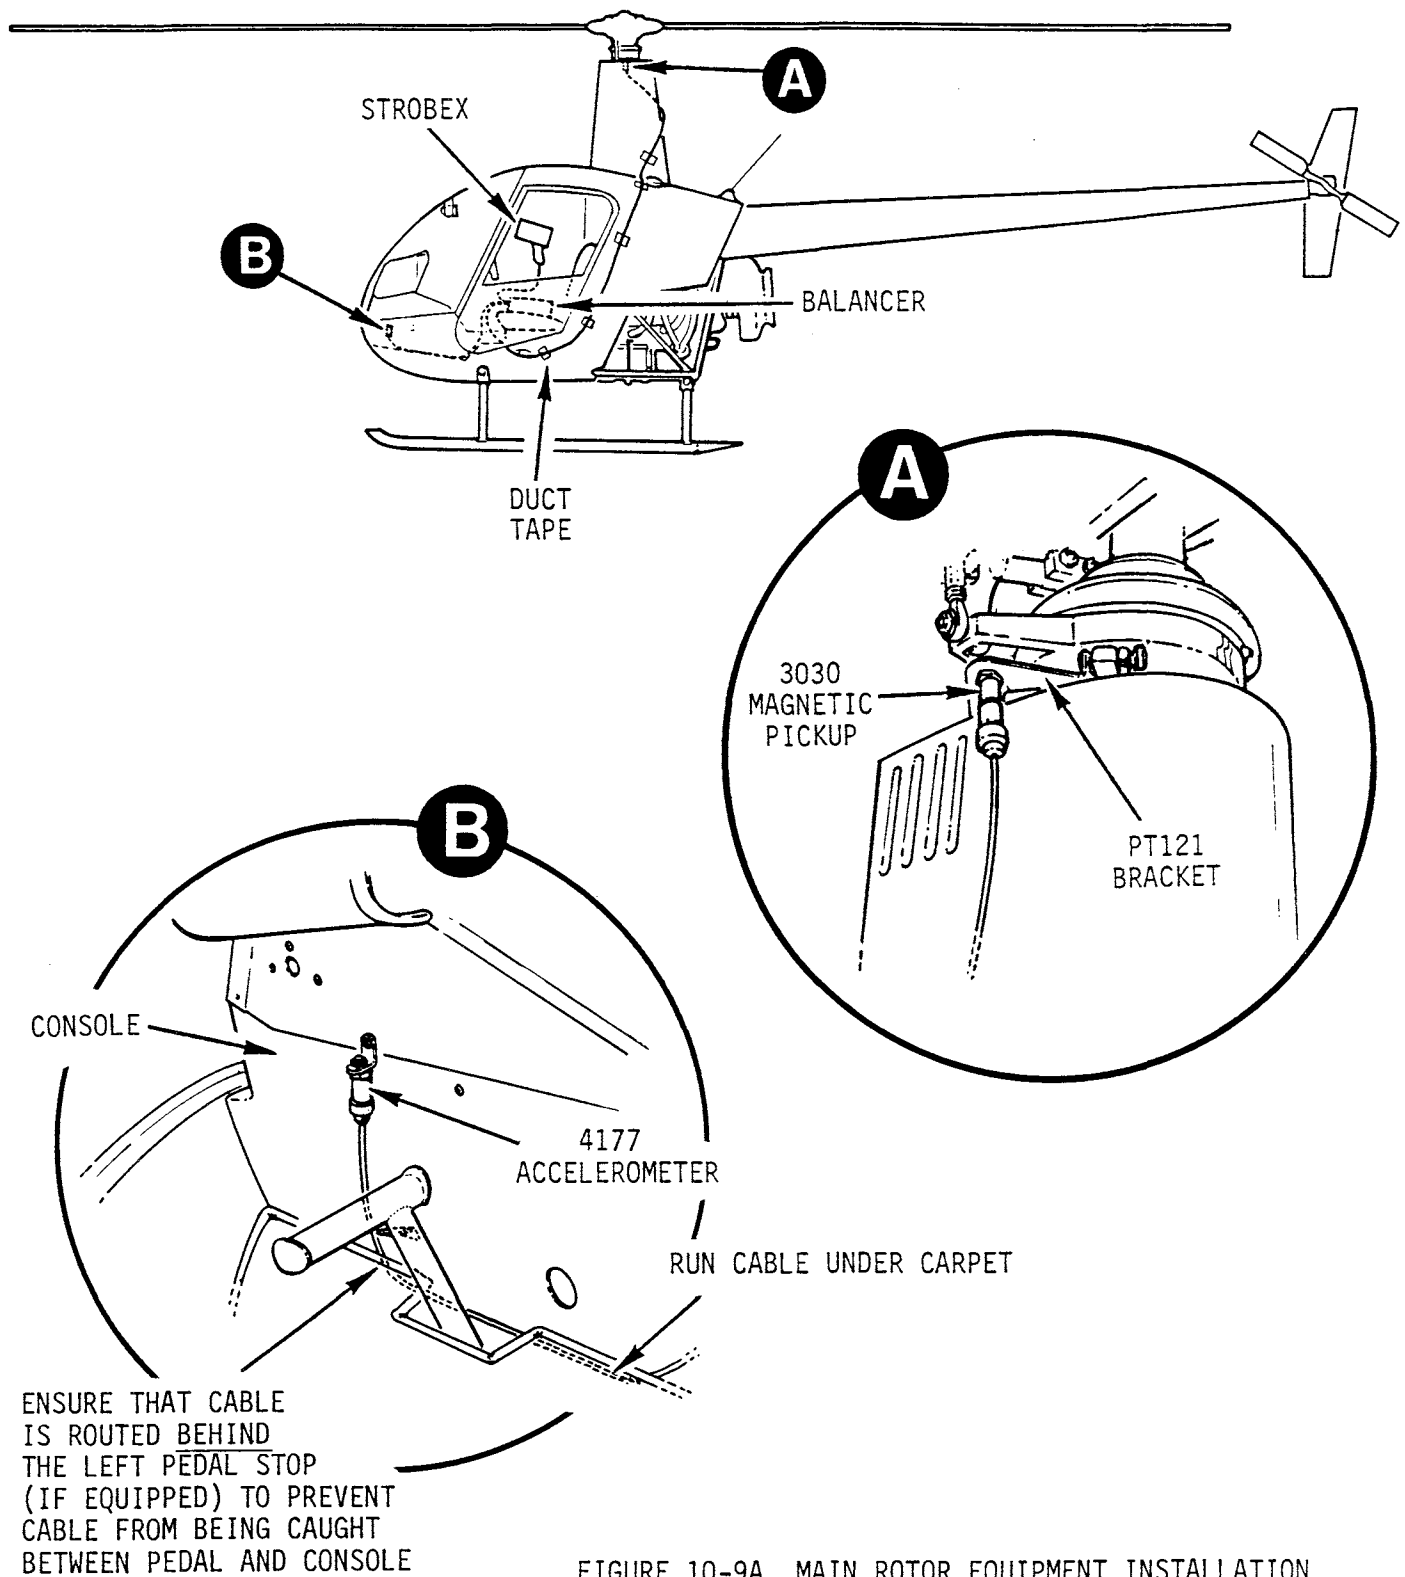

FIGURE 10-9A MAIN ROTOR EQUIPMENT INSTALLATION
- a. Refer to Figure 10-9A. Using appropriate hardware, attach brackets to vibration transducer and attach assembly A359-1 panel as shown. Remove removable controls.